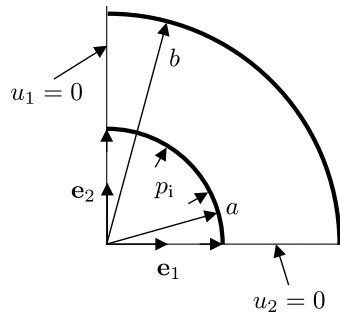

Figure 2: Schematic of the thick-wall pressure vessel showing quarter symmetry.
- Sketch the part as pictured in Fig. 2 and click Done.